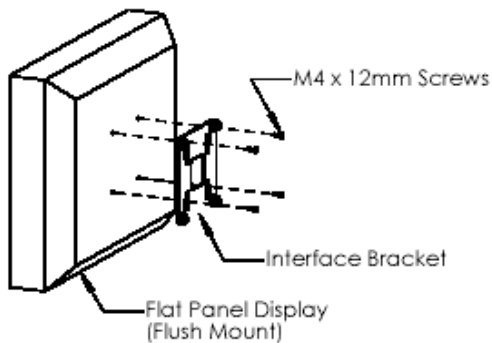

Figure 2
1. Secure the adapter plate to the flat panel display using M4 x 12mm screws (see Figure 2).